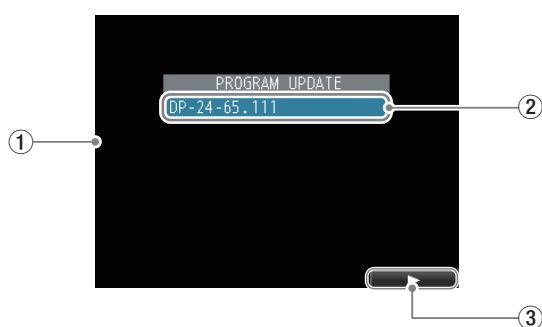

Fig 2
- When this unit is started in update mode, an update file selection screen opens (Fig. 2-①).
- Confirm the update file on the screen (Fig. 2-②). If multiple files are shown, use the **JOG/DATA** dial to select the update file (for the main unit) to use.
- After selection, press the **F4** button (Fig. 2-④), which corresponds to the [▶] icon at the bottom right of the screen (Fig. 2-③), to open the update starting screen.
- To start the update, press the **F2** button, which corresponds to the "YES" icon (Fig. 2-⑤).